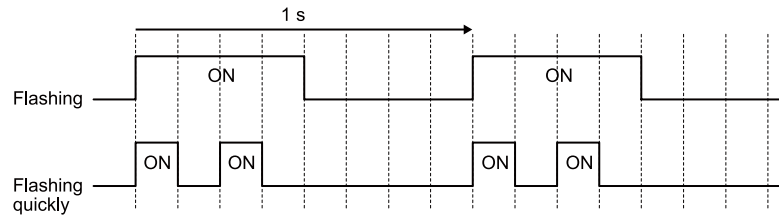

Figure 6.6 LED Flashing Statuses
*1 Refer to Figure 6.6 for the difference between “flashing” and “flashing quickly”.